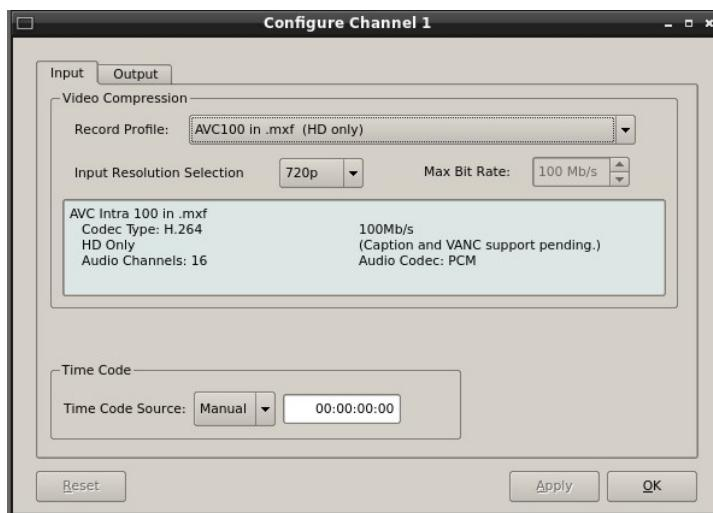

Figure 7 - Channel Configuration Dialog
Select **OPTIONS >CONFIGURE** from the Channel 1 Transport Window. The Dialog box in Figure 7 appears. Click the arrow to open the dropdown menu to select a Record Profile.
Select **OPTIONS >CONFIGURE** from the Record Channel Transport Window. The Dialog box in Figure 7 - Channel Configuration Dialog appears.
Select **OPTIONS >CONFIGURE** from the Channel 1 (or 2 on 2200) Transport Window. The Dialog box in Figure 7 - Channel Configuration Dialog appears.
- Select **OPTIONS >CONFIGURE** from the Channel 1 Transport Window. The Dialog box in Figure 7 - Channel Configuration Dialog appears.